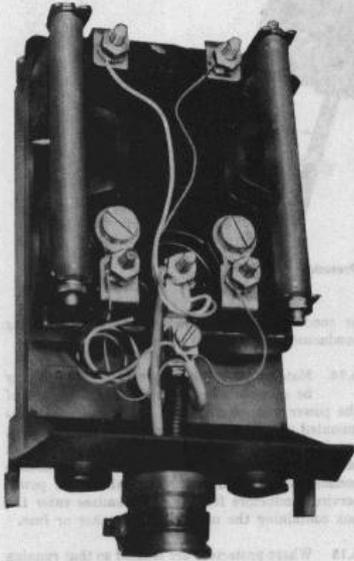

Fig. 43—#106C Protector in C Customer Service Closure
5.06 Φ When the 106C protector is installed outdoors, use a C (Fig. 43) or D customer service closure. Where this combination is used to terminate buried service wire, mount the protector upside